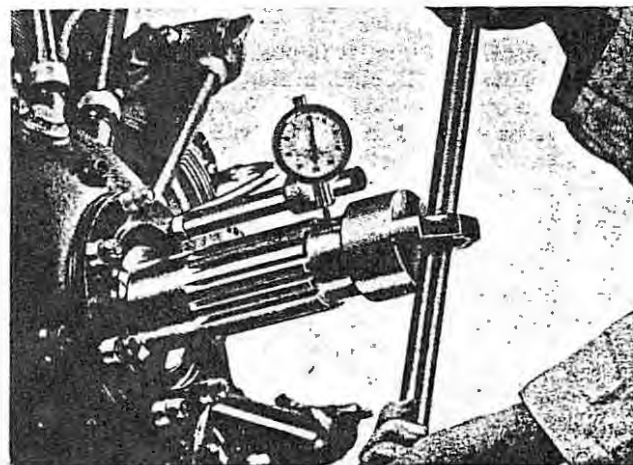

Figure 5-73. Checking Propeller Shaft Runout
b. Check the propeller shaft for misalignment. (See figure 5-73.) A reversible, dial-type test indicator, graduated in 1/1000-inch, can be mounted on the thrust bearing cover stud with the dial plunger resting on the propeller shaft and the propeller shaft checked for run-out at both the front and rear propeller cone seat locations. Propeller shafts will be checked for run-out by turning the crankshaft with a suitable turning bar. Prior to making the run-out check, the front or rear spark plugs will be removed from all cylinders. If the run-out of the propeller shaft at the front cone seat location (see figure 5-73) is more than 0.015 full indicator reading, the engine will be removed. If the run-out of the propeller shaft at the front cone seat is less than 0.015 full indicator reading, a check will be made at the rear seat location. If any run-out is found at this location which is not in the same plane as the run-out at the front cone seat location, the engine will be removed. If the propeller shaft run-out does not exceed the foregoing specified limits, a serviceable propeller will be installed and an additional check will be made by tracking the propeller at the tip in the same plane, perpendicular to the axis of rotation, to assure that blade track tolerance is within limits of 0.441-inch.